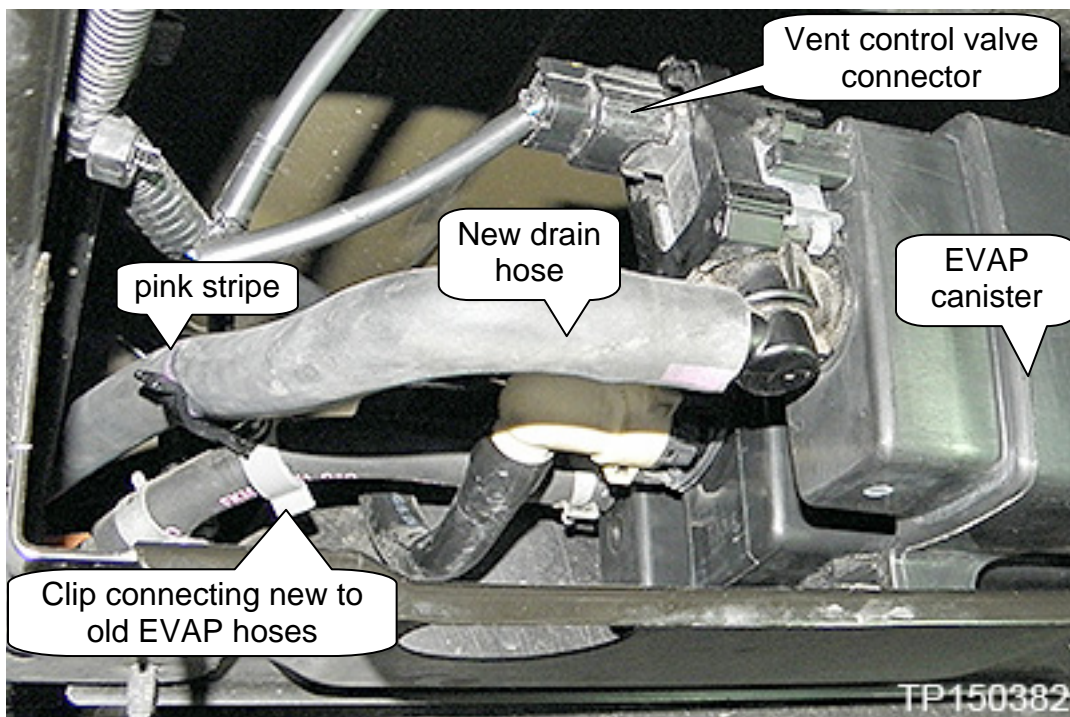

Figure 5
- Harness connectors to vent control valve and pressure sensor (pressure sensor behind new drain hose in Figure 5)
- Two (2) existing EVAP hoses to canister.